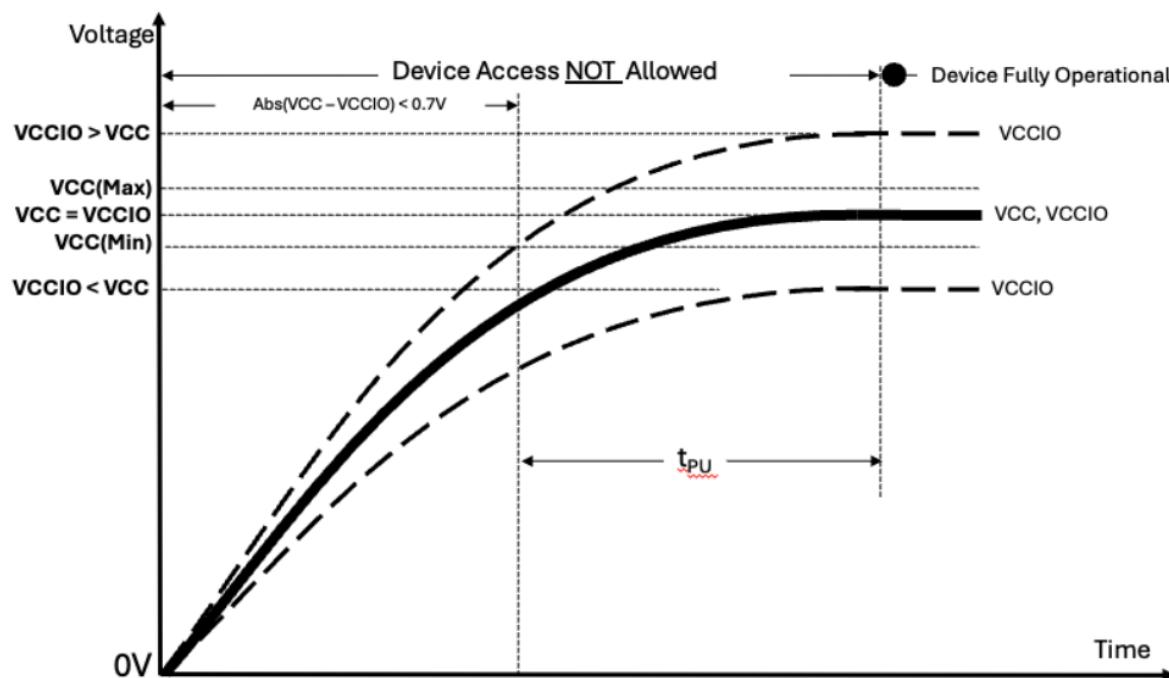

Figure 6: Power-Up Behavior
- The device must not be selected at power-up (a 10KΩ pull-up Resistor to VCCIO on CS# is recommended). Then a further delay of tPU (Figure 6) until VCC reaches VCC(minimum).
- During Power-up, recovering from power loss or brownout, a delay of tPU is required before normal operation commences (Figure 6).